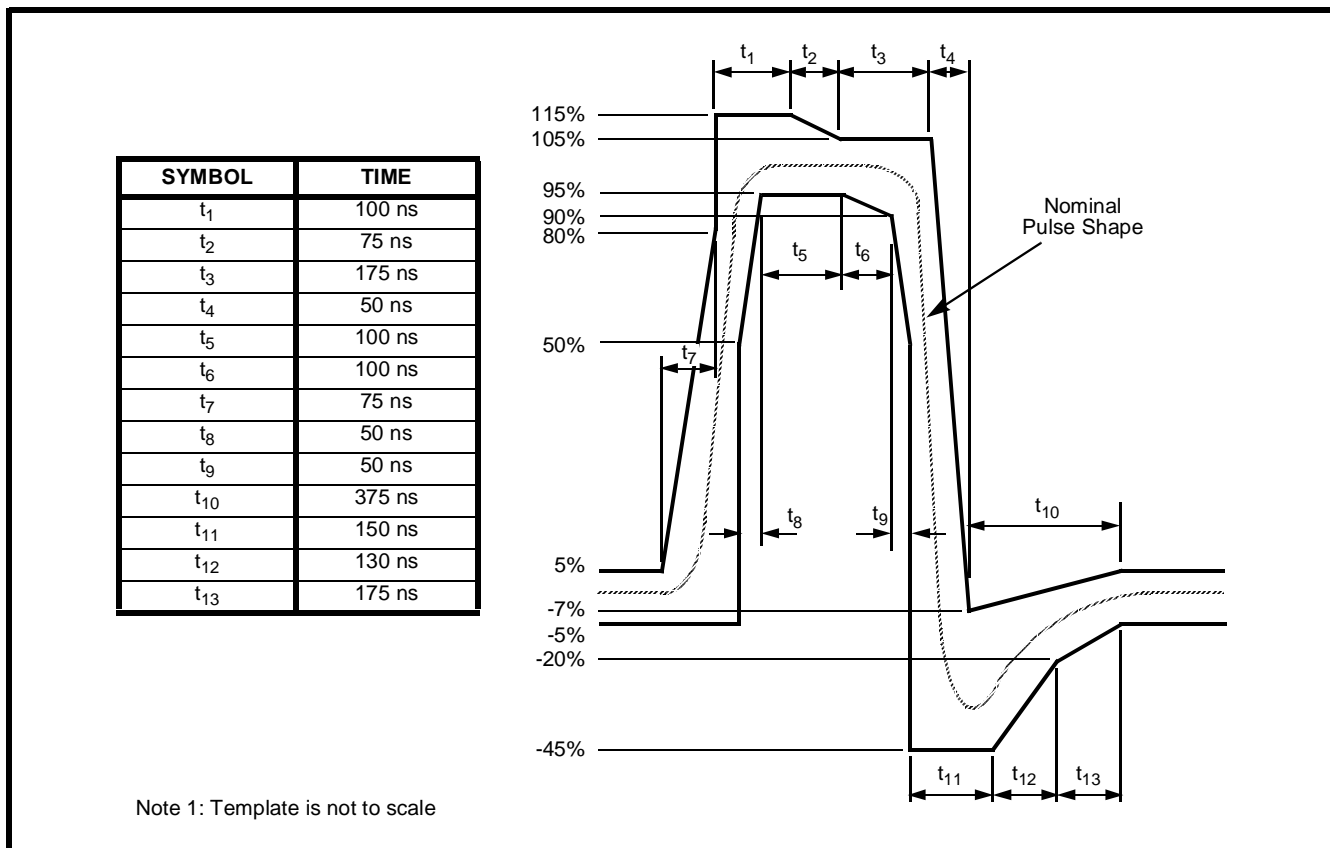
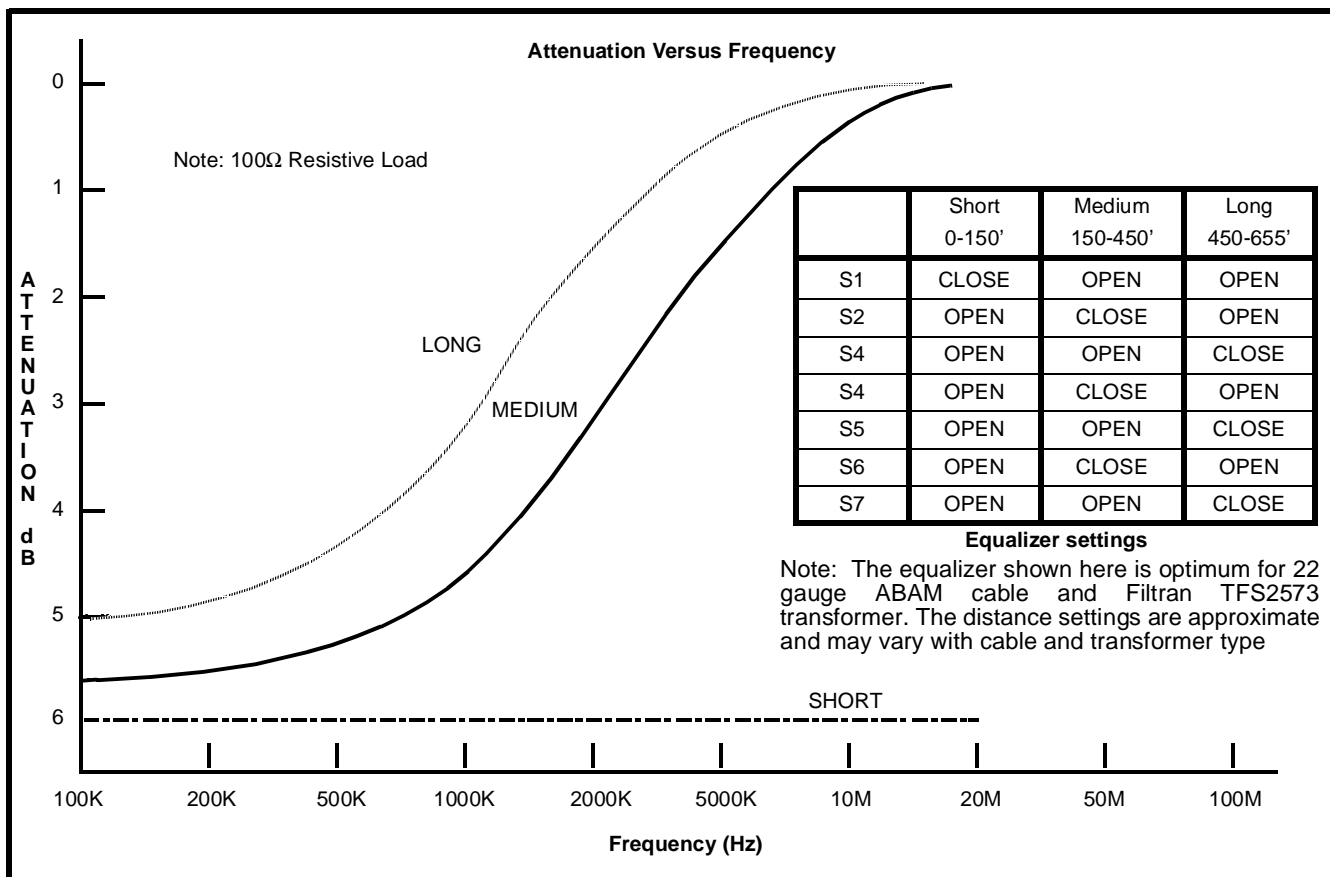

Figure 3 - DSX-1 Line Pulse Template (Reference: ANSI T1.102-1987)
Figure 4 - Typical Frequency Response of the Equalizers
The MH89761 is designed to accept output from the secondary of the T1 transmit transformer and condition it for transmission over twisted pair. The seven switches (S1 to S7) permit configuration of the equalizer for different line lengths. The pulse amplitude at the secondary of TR1 is approximately 6V. Passing this signal through the equalizer with zero line length setting on the switches will result in attenuation of the pulse by 6dB. This will ensure that the pulse fits in the template shown in Figure 3 and meets DSX-1^① requirements. By switching in different C and L components, the frequency and phase response of the equalizer can be altered as shown in Figures 4 and 5. Note that the circuit attenuates lower frequencies more than higher frequencies. Consequently, when a pulse is passed through the the equalizer, lower frequency components in the signal are attenuated more than higher frequency components. The intention is to compensate for the attenuation properties of twisted pair cable, which tends to attenuate higher frequencies more than lower frequencies. The net result is that a pre-equalized pulse will meet DSX pulse requirements after traversing a specific length of cable.
The cable length indicated along with the equalizer switch settings in Figure 4 are specific to 22 awg ABAM cable interfaced to an MH89760B equipped with a Filtran^② TFS2573 transformer. Different equalizer settings may be more appropriate for other cable and transformer types. Figure 6 shows the generic switch settings for different levels of equalization.